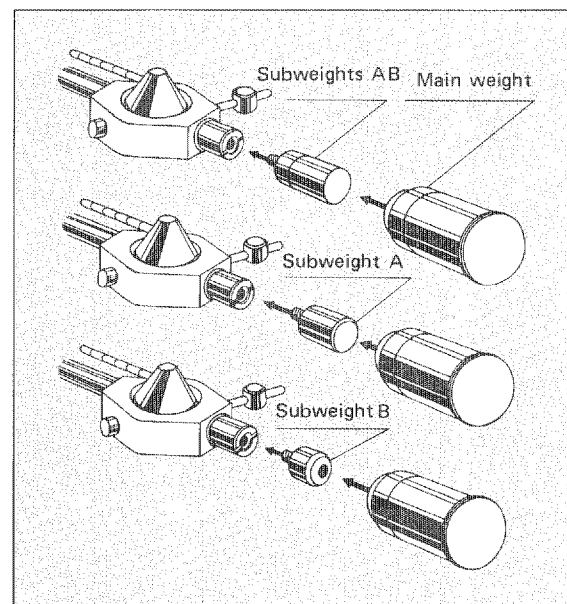

Fig. 23
- Screw the subweight(s) onto the rear of the tone arm. (Fig. 23)